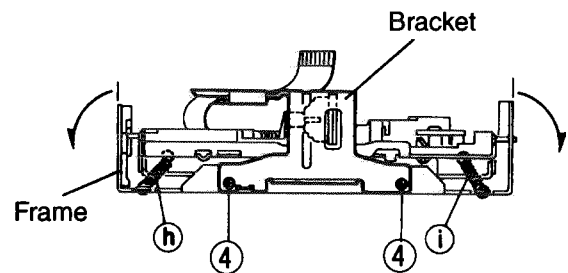

Fig. 16
1. Remove the two screws ④ retaining the bracket for fixing the damper (See Fig. 16)
3. Remove the two springs (h) and (i) as shown in Fig. 10 and Fig. 16.